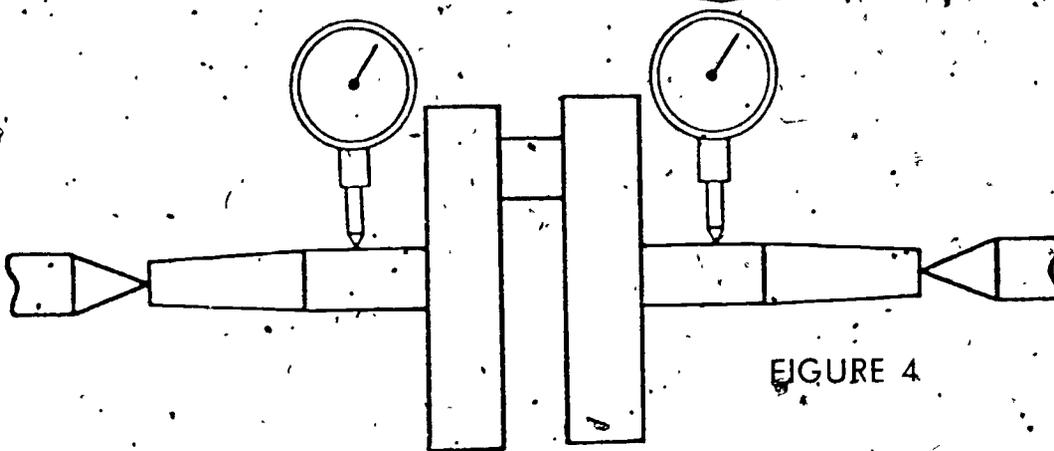

FIGURE 4
2. Mount dial indicators on bearing journals (Figure 4)